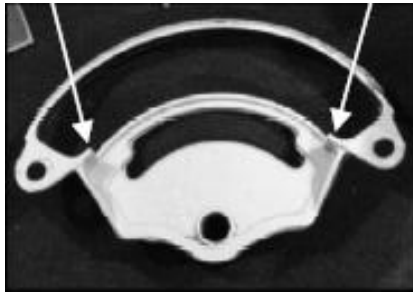

Figure 7
Step 2: Before placing gear selector bracket over glass, file corners about 1/8 inch on the back side. (Figure 7)